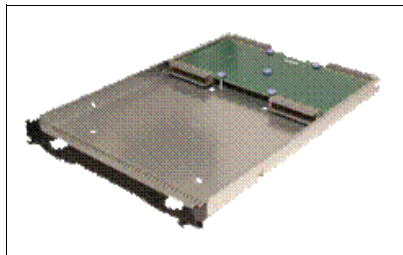

Figure 2-5 High-Speed switch tray with interposer
- ▶ **Interposers** — AMMs and I/O (switch) modules are all located in the front of the chassis with the blades. Since they plug into a common midplane with the blade servers, they require interposers in each populated I/O bay to make up the difference in depth between switch enclosures and blade server enclosures. These interposers are entirely passive, and extend the midplane out to the rear connectors of the I/O modules. See Figure 2-5 for a picture.